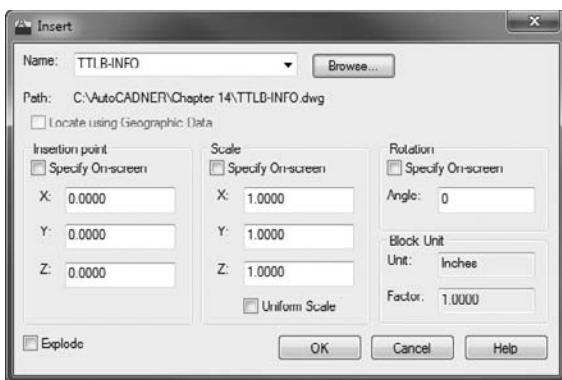

FIGURE 14.23 Inserting the TTLB-INFO block
5. Since the TTBL-INFO block, like the title block reference, was created with a common insertion point, you use the default Insertion Point of 0,0,0, Scale of 1, and Rotation of 0. Make sure your Insert dialog box looks like Figure 14.23, and click OK.